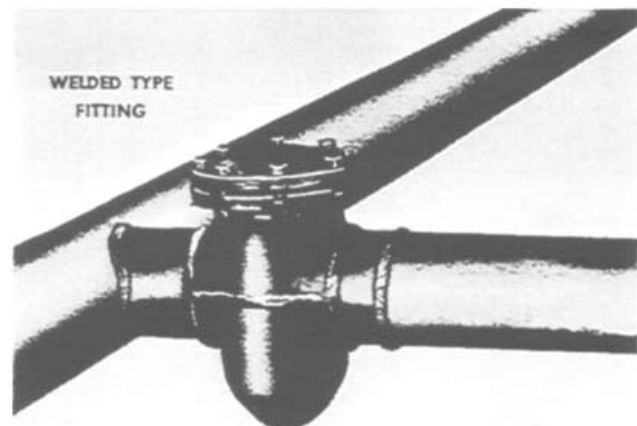

FIGURE 35
15. Bolt cap solidly to fitting flange. **Figure 35.**